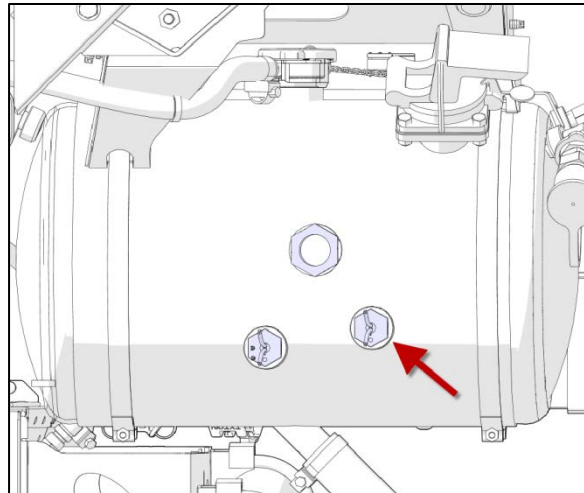

Figure 30
34. Reconnect the low coolant sensor (Figure 30).